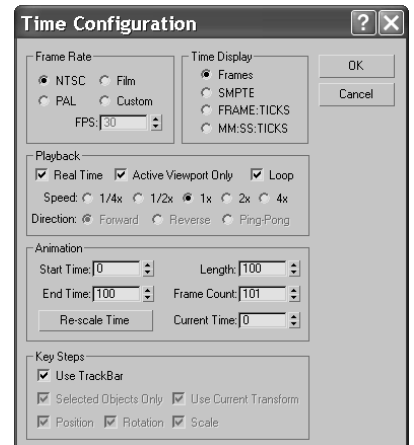

Figure 3.33
**Time Configuration**—A dialog (Figure 3.33) that allows control over frame rates, time display, playback, and animation. You can use this to scale your animation length so it goes faster or slower, or to add more frames to the start or end of your animation. This is covered as well in Chapter 8.